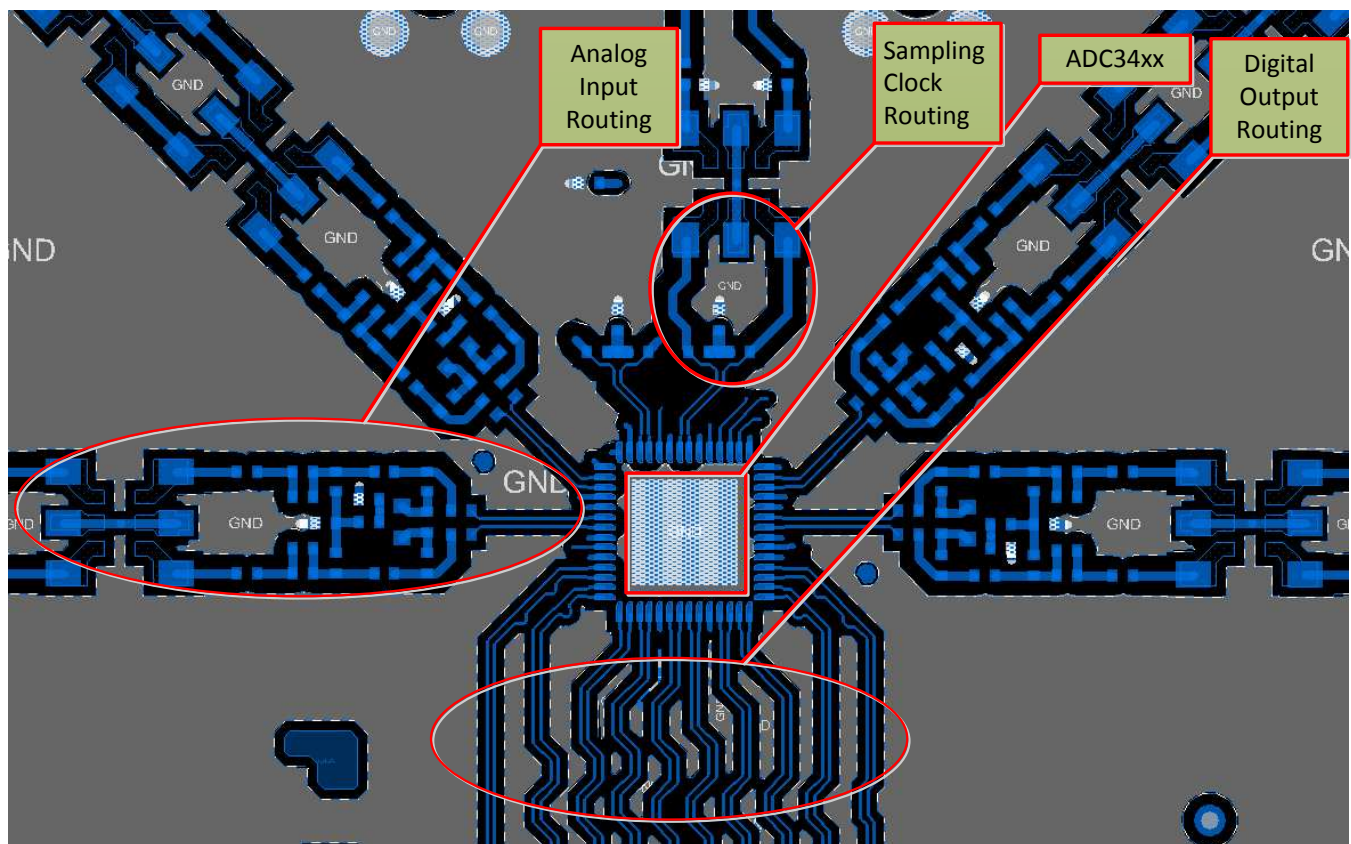

Figure 66. Typical Layout of ADC344x Board
The ADC344x EVM layout can be used as a reference layout to obtain the best performance. A layout diagram of the EVM top layer is provided in Figure 66. Some important points to remember during laying out the board are:
1. Analog inputs are located on opposite sides of the device pin out to ensure minimum crosstalk on the package level. To minimize crosstalk onboard, the analog inputs should exit the pin out in opposite directions, as shown in the reference layout of Figure 66 as much as possible.
2. In the device pin out, the sampling clock is located on a side perpendicular to the analog inputs in order to minimize coupling between them. This configuration is also maintained on the reference layout of Figure 66 as much as possible.